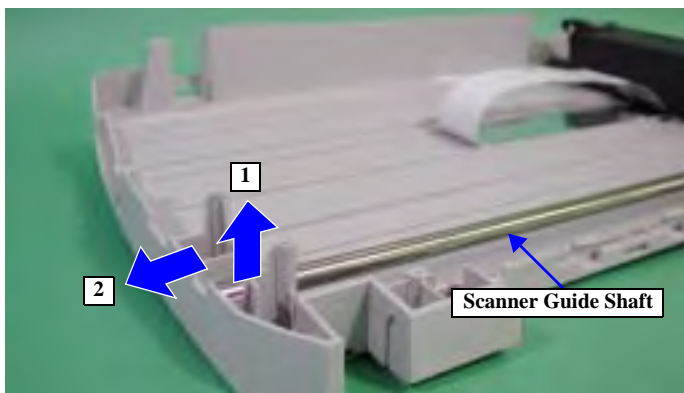

Figure 4-17. Scanner Carriage Unit Removal 2
3. Follow the order shown in Figure 4-17 to remove the Scanner Guide Shaft from the Lower Housing and Scanner Carriage Unit.